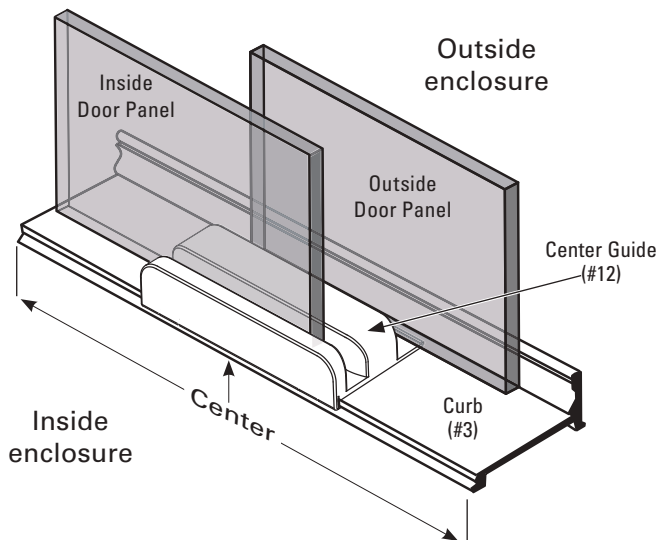
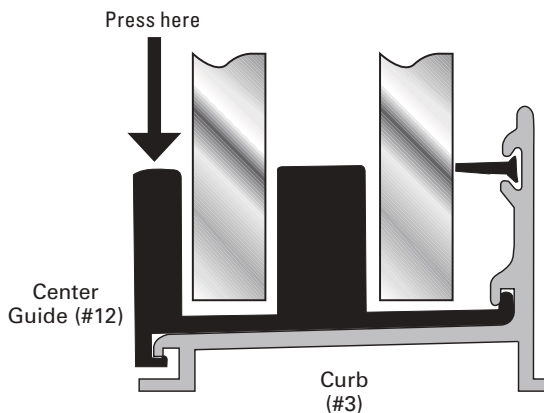

Figure 9b
Figure 9c
E. Slide the Center Guide under the two Door Panels. Center the Center Guide on the pencil mark you made (See **Figure 9b**). Press the Center Guide onto the Curb and lock it into position by pressing firmly on the back edge of the Center Guide as shown in **Figure 9c**. You should feel it lock into place. If the Center Guide does not lock into position easily, it may be necessary to press firmly on one end to start the process and work along the back of the Center Guide in order to lock it into place.